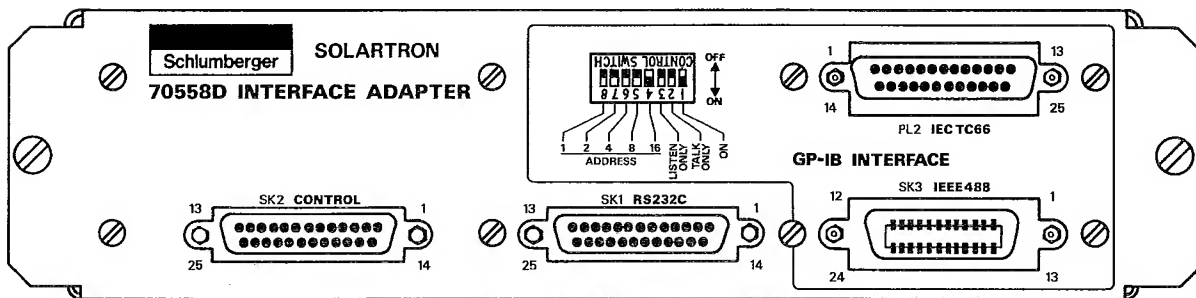

Fig. 1 Interface Adapter 70558D
An Interface Adapter (70558D) is supplied with the Interface. The Adapter, illustrated in Fig. 1, is equipped with connectors for both IEC TC66 and IEEE 488 standard cables to suit the user's system.
For the user who wishes merely to obtain a hard-copy print-out of measurement data, or readings displayed at a remote terminal, the 70555 can function as a simple output interface. The terminal, which must itself be fitted with a GP-IB Interface, is simply connected via the 70555 Interface to the voltmeter. The latter must have its address switches (see Fig. 1 and "Addressing") set to TALK ONLY; similarly the terminal must be in the LISTEN ONLY state. The voltmeter can then be operated normally, under LOCAL control, and measurement data presented at the terminal.
The user should refer to the manufacturers handbook applicable to the chosen terminal for details of the former, to Fig. 1 for the latter.
**Addressing** The IEEE 488 Standard specifies that a 5-bit address code will be allocated to each bus connected device; the codes are selectable by the user. On the 7055D Interface Adapter (Fig. 1) a bank of rocker switches controls the function of the Interface; rockers 4 to 8 select the instrument address code. The standard setting for these switches, when 70555 is shipped, is binary 10000 (i.e. decimal 16). Examination of the ISO 7 table on page 3.1.19 will show that "My Listen Address" (MLA) for the voltmeter is ASCII character "Ø" (see note) and that its "My Talk Address" (MTA) is ASCII "P".